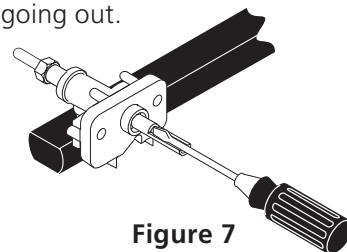

Figure 7
8.4 Adjust the "LOW" Setting of Surface Burner Valves (see Figure 7)